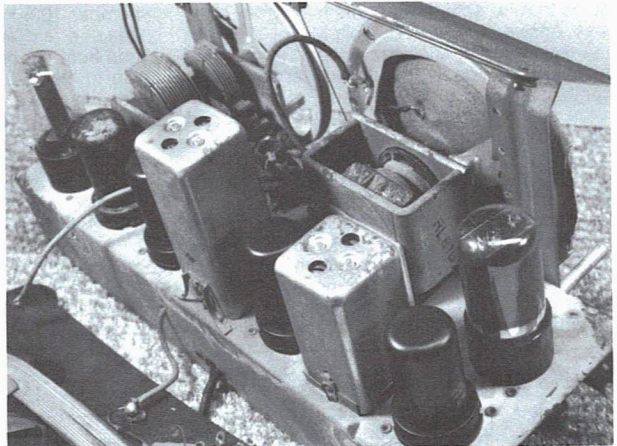

Figure 1. RCA Victor RC-462 chassis, showing two pre-World War II intermediate frequency cans.
From the 1930s through the mid-1960s, many manufacturers made tube-type superheterodyne AM and AM/FM radios. A familiar component in these sets is the intermediate frequency (IF) transformer seen in Figure 1.
Pre-World War II AM superheterodyne radios commonly used IF transformers with top-mounted screw adjustments similar to the IF "cans" shown in the 1941 model RCA Victor RC-462 chassis in Figure 1. However, from the late 1940s through the mid-1960s, many manufacturers used a novel design idea for intermediate frequency transformers. The construction of the IF transformer included built-in fixed capacitors which made the assembly of radios easier. In the 1940s and 1950s, Zenith, for example, used IF transformers that were slug-tuned types having a 1 $\frac{1}{8}$ " square footprint.